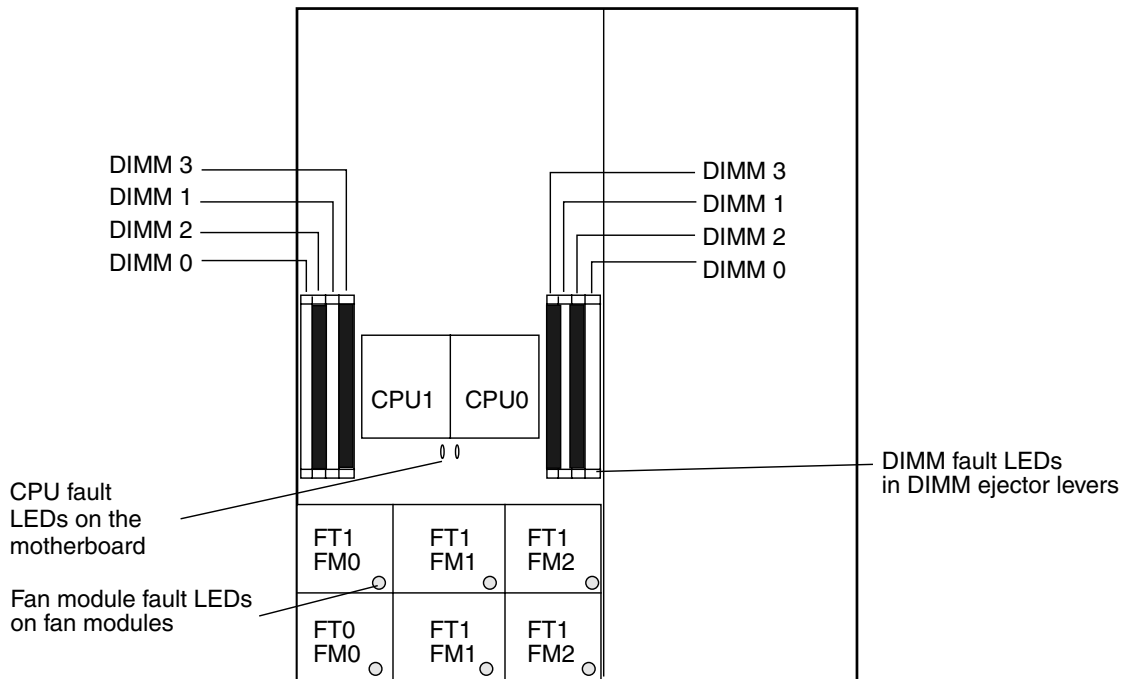

FIGURE 1-4 Sun Fire X4100 and Sun Fire X4200 DIMM Slot Locations
FIGURE 1-4 shows the numbering of the DIMM slots.
3. Inspect the fault LEDs on the DIMM slot ejectors and the CPU LEDs on the motherboard. See FIGURE 1-4.